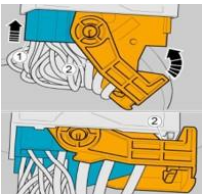

Figure 4
- Referring to Figure 4 - Connect the harness connector (1) and fully close the retainer (2) when the correct retention of the harness connector is achieved, an audible click will be heard